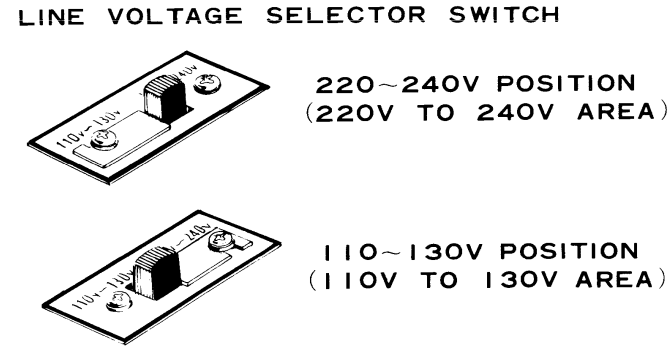

Fig. 7
*Fig. 7 shows the location of the line voltage selector switch and lock plate. Remove the screw in the lock plate with a philips screwdriver to free the lock plate.